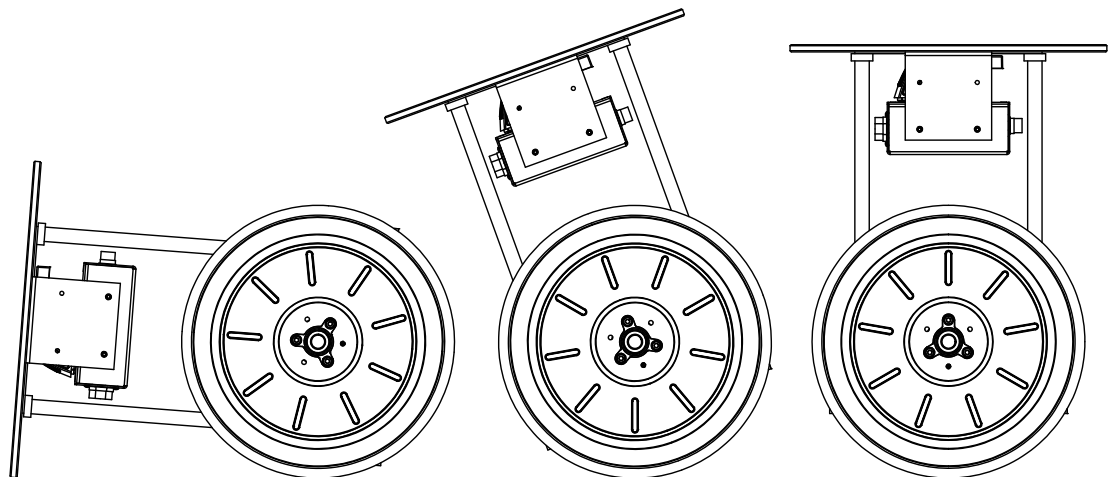

Figure 30: Tip the RMP Upright When Entering Balance Mode
4. Tip the RMP upright until it is vertical (see Figure 30).